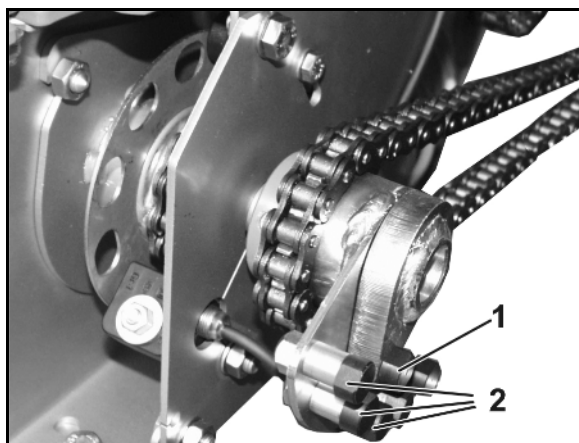

Fig. 118
2. Close the slide (Fig. 118/1), if only the dosing unit and not the hopper is to be emptied (see Seite 104).